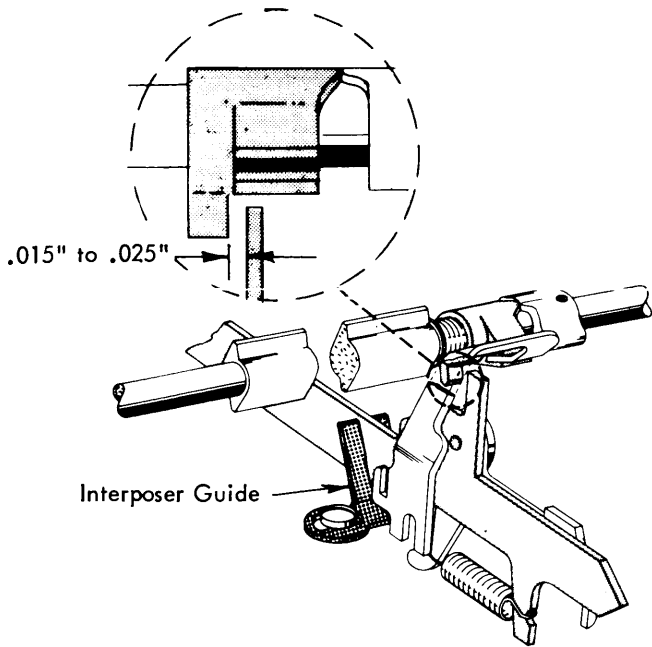

FIGURE 122. Spacebar Interposer Guide Adjustment
- c. Spacebar Interposer Guide - Adjust the interposer guide left or right to obtain .015" to .025" clearance between the interposer and the lockout cam (Fig. 122). The filter shaft should be in its rest position and the spacebar interposer released to the rear when making this adjustment.